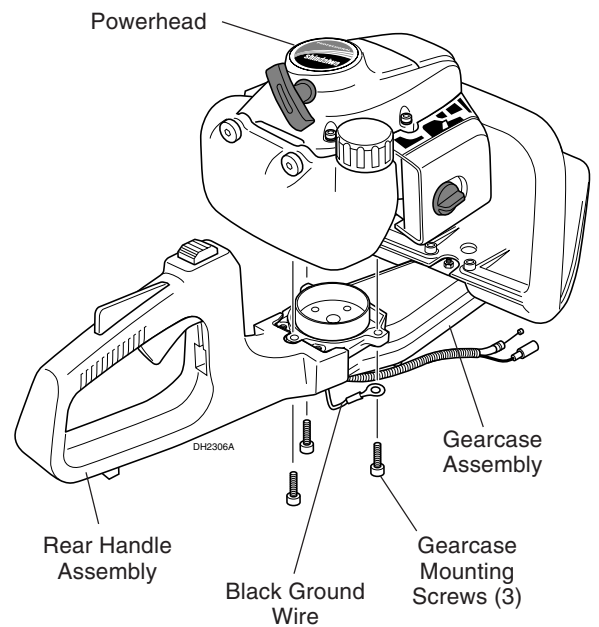

Figure 11. Removing the Powerhead Assembly from the Gearcase Assembly
- STEP 3.** Remove the three 6 mm x 16 mm gearcase mounting screws, and lift off the powerhead assembly from the gearcase (Figure 11).